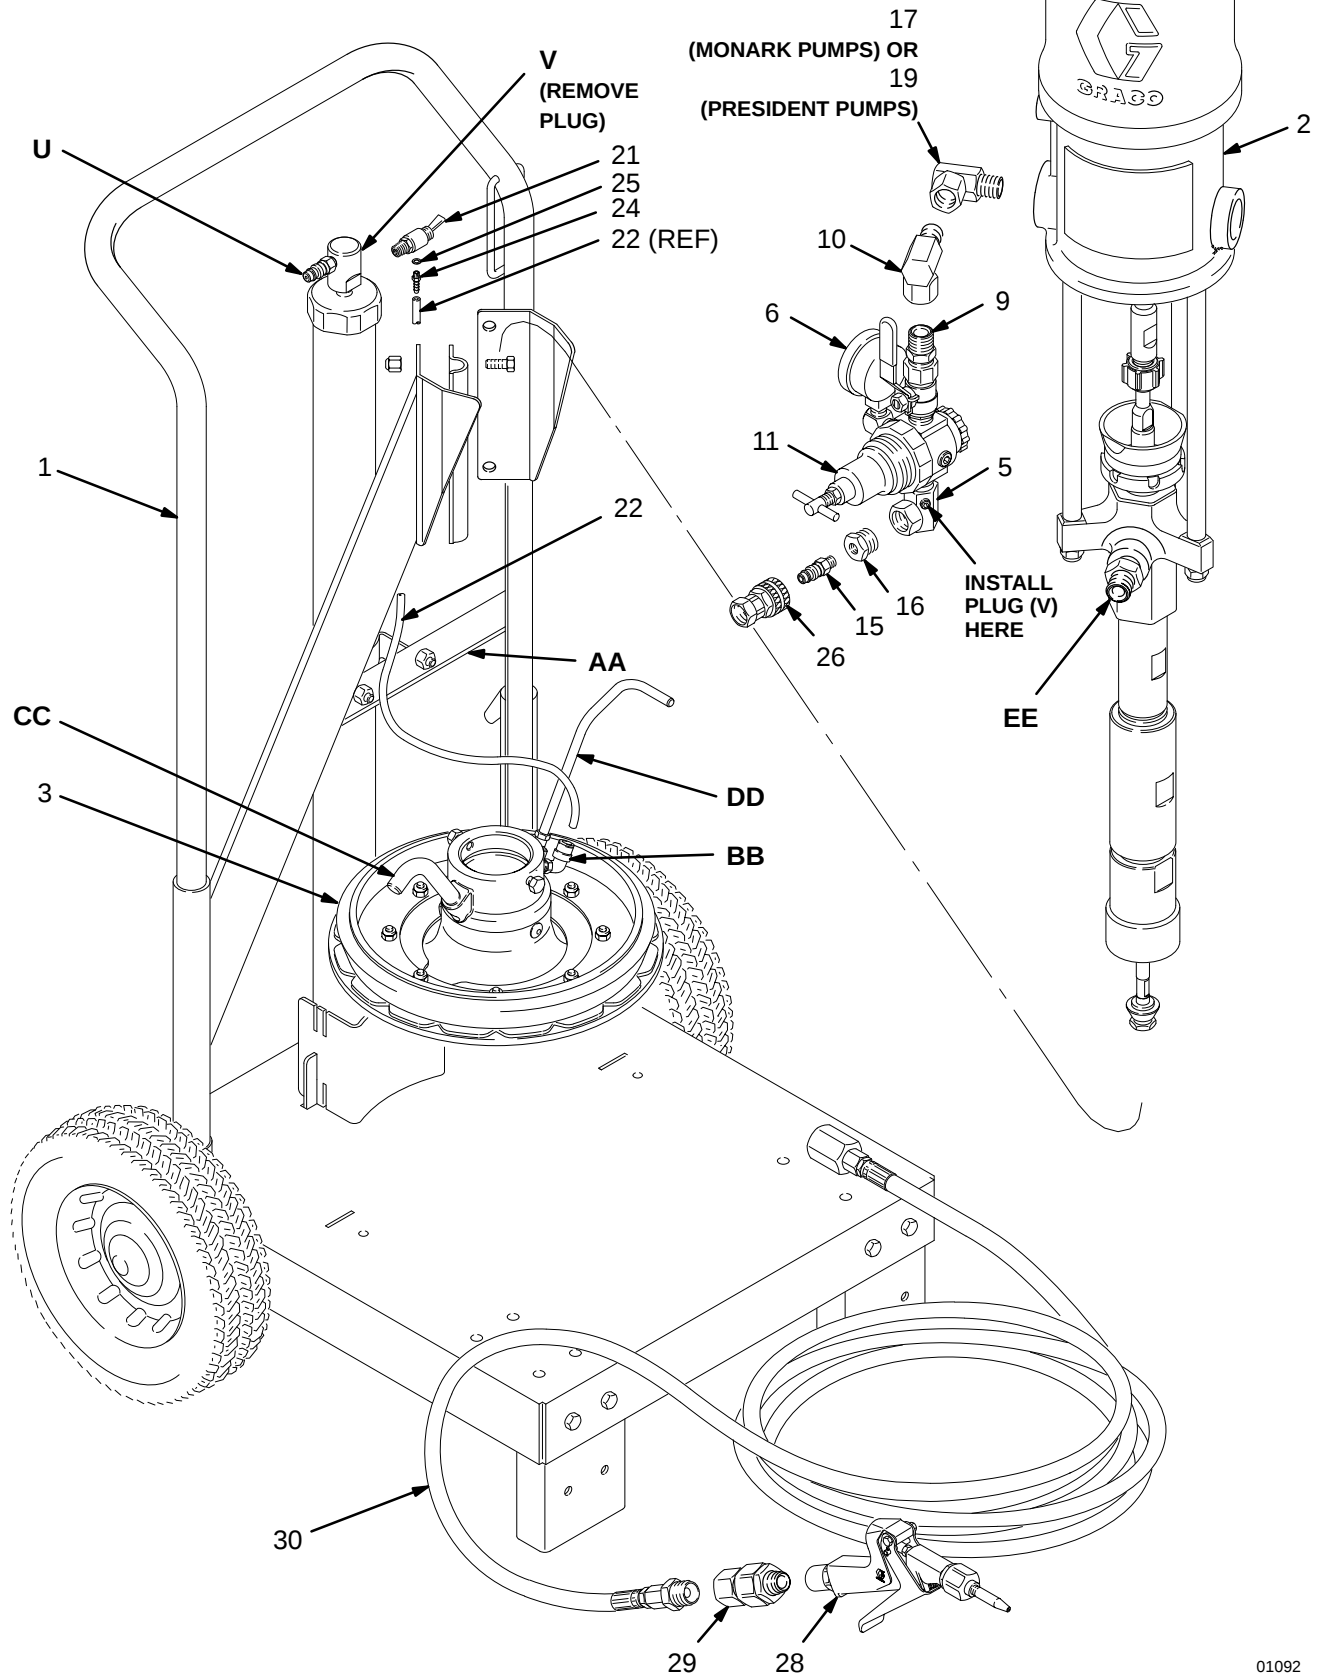

Fig 2
1. Screw the air inlet adapter into the pump's air inlet. *For Monark pumps*, use the straight swivel adapter (17), which will be oriented as shown in the parts drawing on page 10. *For President pumps*, use the 90° swivel adapter (19). Orient the 90° adapter (19) with the swivel angled forward (see Fig 2).
2. The air regulation kit (4) requires some reconfiguration before it is assembled to the pump. Proceed as follows:
- a. Remove the 90° swivel adapter (10) from the air regulation kit (4). Attach this adapter to the swivel adapter (17 or 19) installed in step 1. The swivel end of the adapter (10) must face down. See Fig 2 for President pumps, and the parts drawing on page 10 for Monark pumps.
- b. Rotate the air manifold (5) so its swivel inlet faces the same direction as the T-handle of the air regulator (11). See Fig 2.
- c. Reorient the pressure gauge (6) and the elbow which attaches it to the air regulator so the gauge is upright and faces backward, toward the handle of the cart. See Fig 2.
- d. Screw the bushing (16) into the swivel inlet of the air manifold (5), and screw the male quick disconnect fitting (15) into the bushing. Screw the female quick disconnect coupler (26) onto the air hose (D, see page 4).
- e. Install the air regulation kit onto the pump by connecting the nipple (9) to the swivel end of the adapter (10). Tighten securely. When properly installed, the pump air inlet fitting (15) will face the same direction and be parallel to the air inlet fitting (U) on the pneumatic elevator.
3. Remove the plug from the air valve housing (V) on the top of the cart's cylinder. Screw the plug into the open port of the air manifold (5), as shown in Fig 2.
4. Screw the air release toggle valve (21) into the open port of the air valve housing (V). Be sure that the hole on the release valve is facing down.
5. Place the gasket (25) on the threaded end of the barbed stud (24). Screw the stud into the air release toggle valve (21). Push one end of the tube (22) onto the barbed stud (24).
6. Route the tube (22) over the crosspiece (AA) of the cart frame and bring it to the tube fitting (BB) on the wiper plate (3). The tube fitting swivels; route the tube to the fitting so the tube will not interfere with the operation of the handles (CC and DD) on the wiper plate.
7. Push the tube into the tube fitting (BB) until it snaps securely in place. Pull on the tube to ensure it is locked.